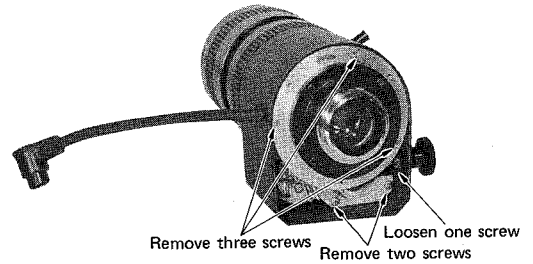

Fig. 6
- Remove three screws which hold the lens mounting assembly and remove the lens mounting assembly. (Fig. 6)
- Loosen one screw which hold the manual knob assembly and remove the manual knob assembly. (Fig. 6)
- Remove two screws which hold the switch board assembly and remove the switch board assembly. (Fig. 6)